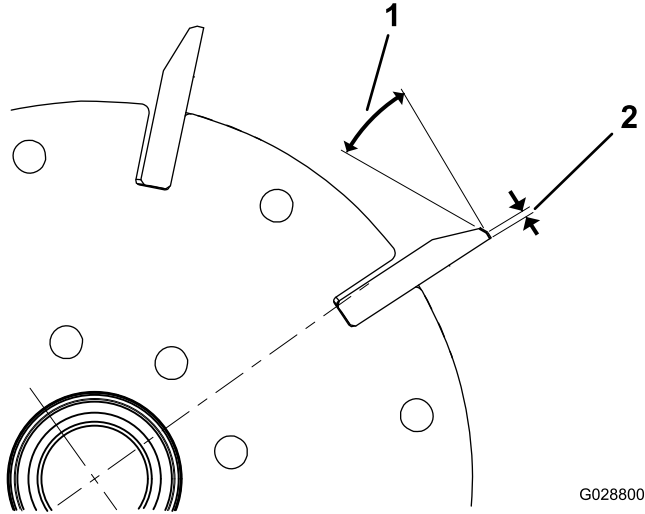
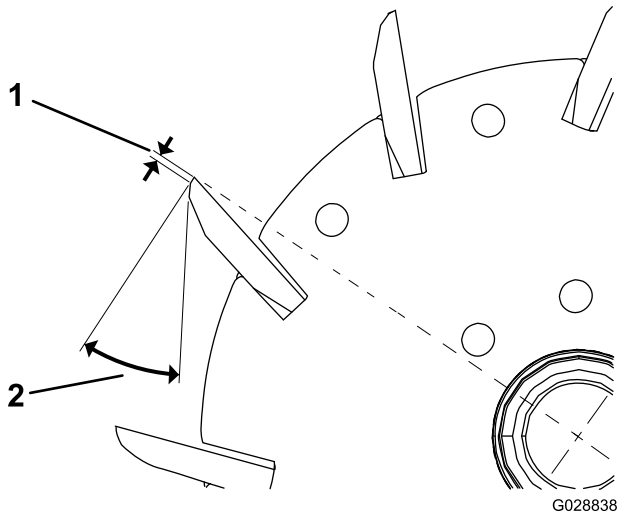

Figure 22
Figure 23
1. Apply a 30 degree relief grind on all reel blades until the land width is 1.3 mm (0.050 inch) wide (Figure 22 and Figure 23).